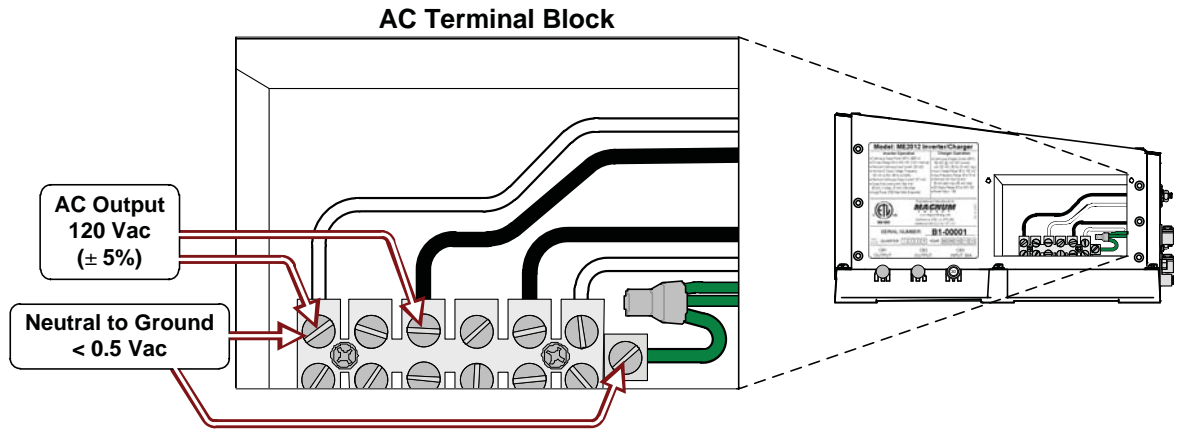

Figure 2-20, AC Voltage Checks
5. Check the AC output voltage of the inverter by connecting an AC voltmeter to the output terminals (see Figure 2-20) and verify the correct output voltages.